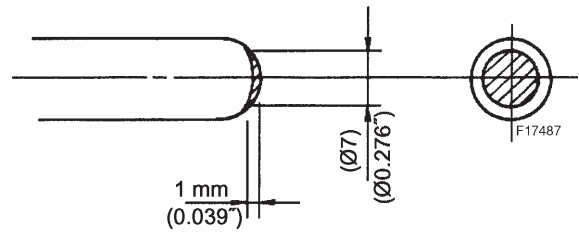

Fig. 3-7 Wear of push rod
- 4) Replace a push rod that is worn to 1mm (0.04in) or over on its top end (see Fig. 3-7).